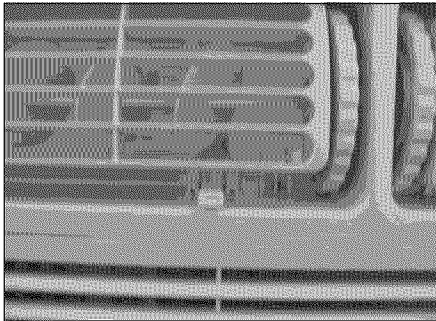

Figure 1 (VENT CLOSED)
1. Recirculate inside air -- Vent Closed (see Fig. 1)